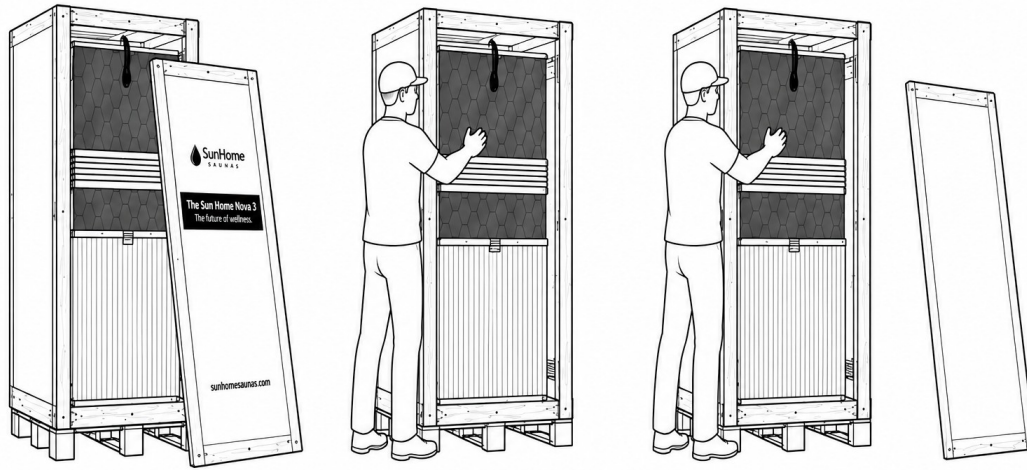

Figure 5. One person holds the contents upright (shown) while the other removes the crate front and sets it aside.
- With one person holding the contents upright, remove the crate front and set it aside (Figure 5).